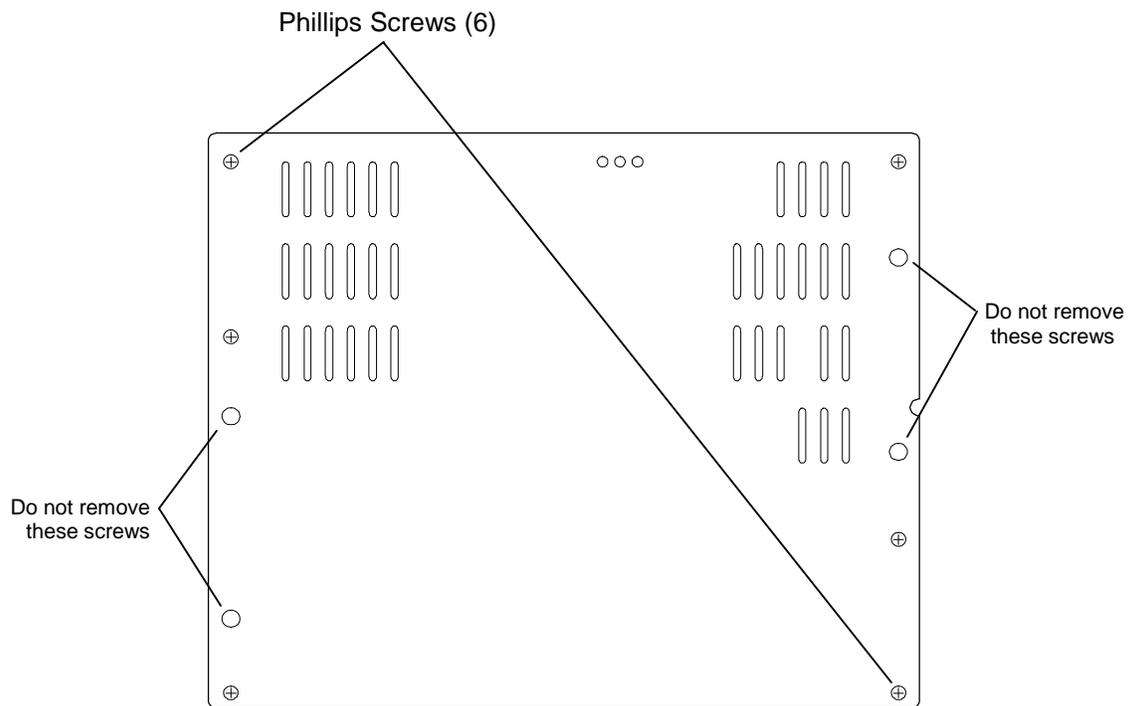

Figure 4-8 Service Panel
2. Using a Phillips screwdriver remove the six screws securing the service panel on the rear of the library – refer to Figure 4-8. Depending of the model of library, the service panel may not have ventilation slots. Care must be taken to not remove the four screws securing the heatsink panels. Save the service panel for possible future use.